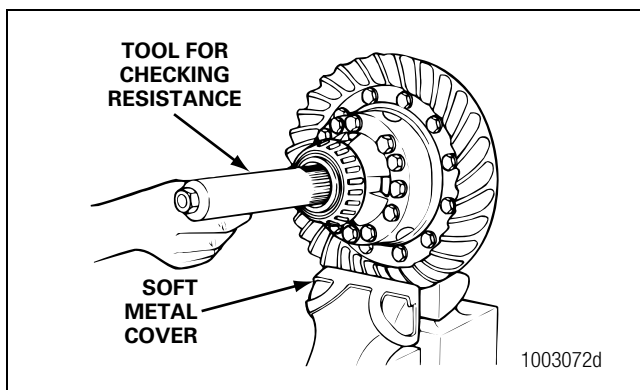

Figure 5.22
- Install soft metal covers over the vise jaws to protect the ring gear. Figure 5.22. Place the differential and ring gear assembly in the vise.
- Install the tool into the differential until the splines of the tool and one side gear are engaged. Figure 5.22.